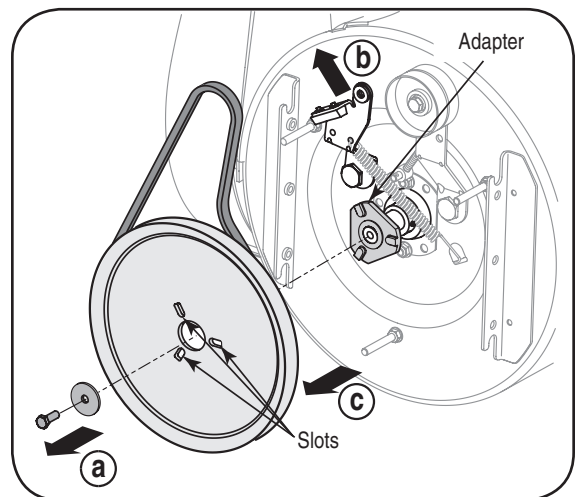

Figure 30
9. a. Using a 1/2" wrench, remove the hex screw and washer from the center of the pulley on the auger housing. See Figure 30.